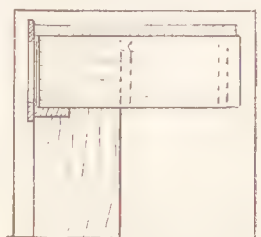

Fig. 3—Half section of top
While the glue is drying, cut two pieces of thin glass or clear plastic to fit the window openings. Fit in position, then nail top shelf (B) in place, with its further end touching the glass to prevent the latter falling out. The transverse section of the shop, across line (a-b) (half) as shown at Fig. 3, will explain the above and make all clear.